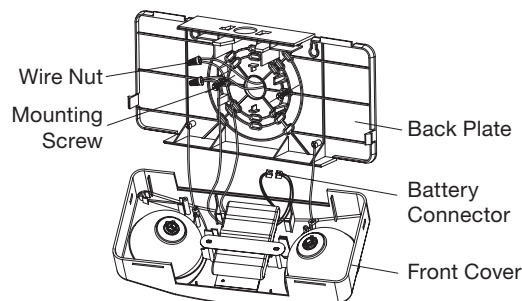

FIG.2
Wall Mount-Back Power Feed (see Fig. 2)
7. Plug battery male connector into battery female connector on PCBA. (see Fig. 2)